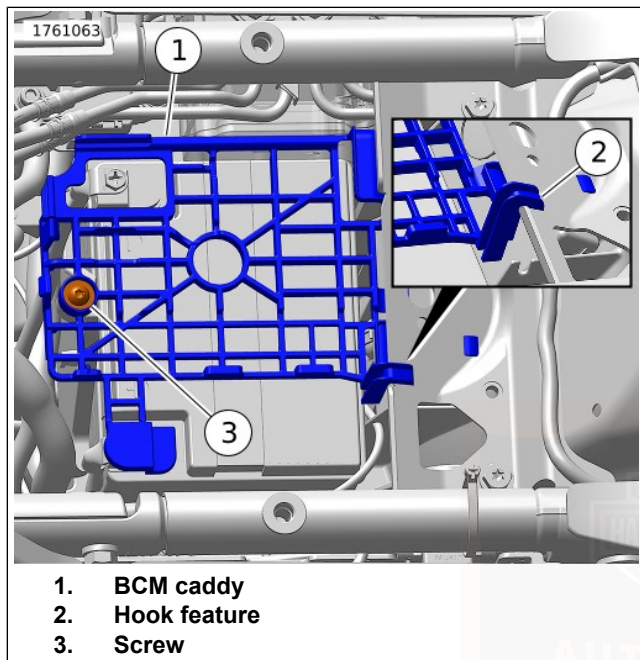

Figure 116. Removing/Installing BCM Caddy
9. See Figure 116. Remove screw (3) and BCM caddy (1).
7. See Figure 116. Install BCM caddy (1). Make sure hook feature (2) hooks on top of frame tab.
8. Install screw (3). Tighten.